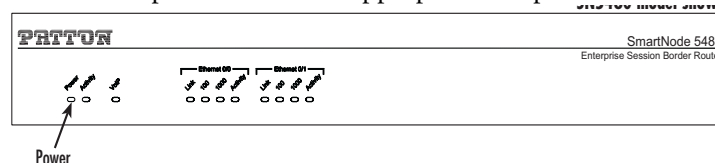

Figure 9. SN5480/5490 Power LED
4. Verify that the green *Power* LED is lit (see Figure 9).